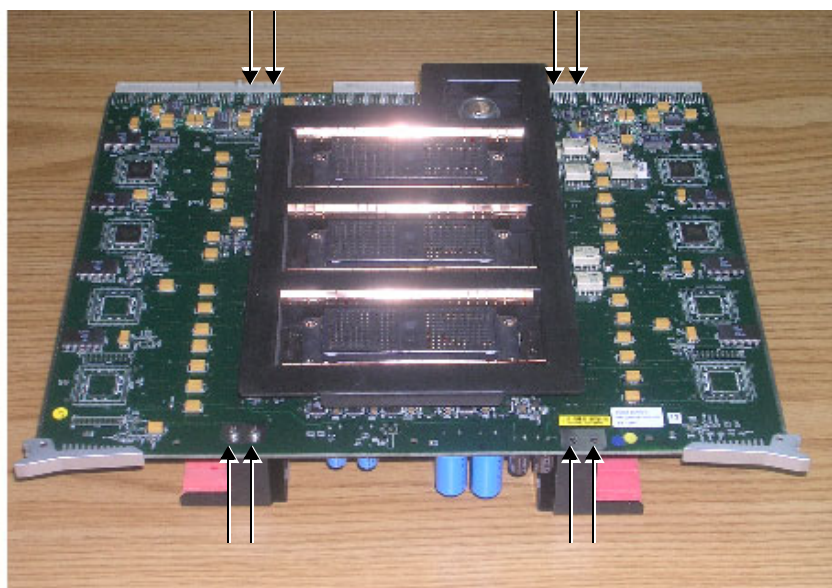

Figure 8-32 Location of Screws on Securing Brackets
3.) Remove each of the four screws (two from each side) that hold the two brackets that secure the TR4 boards to the FE Board main plate, as shown in Figure 8-32 below.
- 3.) Return and tighten the four screws (two on each side) to fasten the bracket in position and secure the TR4 boards to the Front board main plate - refer to Figure 8-32 on page 8-37.